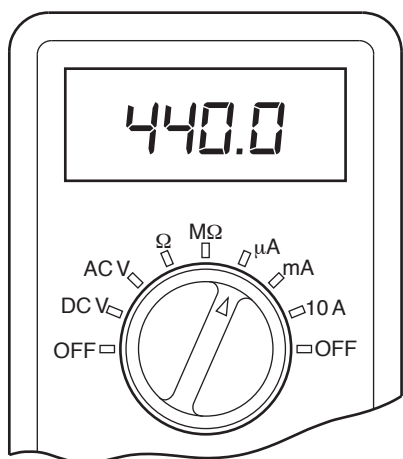

Fig. 18a
- (iv) Fig. 18a shows the current flow through the thermistor being measured using a multimeter.
- the reading in Fig. 18a converted to milliamps.